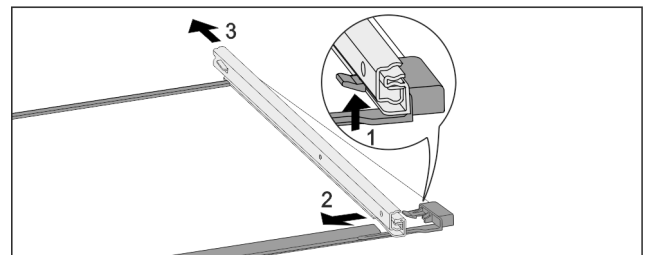

Fig. 227 Glass shelf with rails
- ▶ Push up front click-in hooks. Fig. 227 (1)
- ▶ Move the pull-out rails to the side Fig. 227 (2) and to the rear Fig. 227 (3).